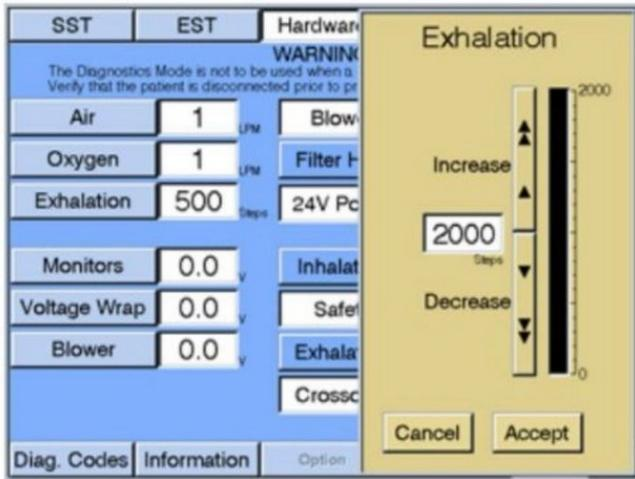

Figure 8-18: Diagnostic Mode - Selecting Exhalation Position
- On the Hardware screen, touch Exhalation (blue background, seen in Figure 8-18, found on page 8-21 of the Service Manual).